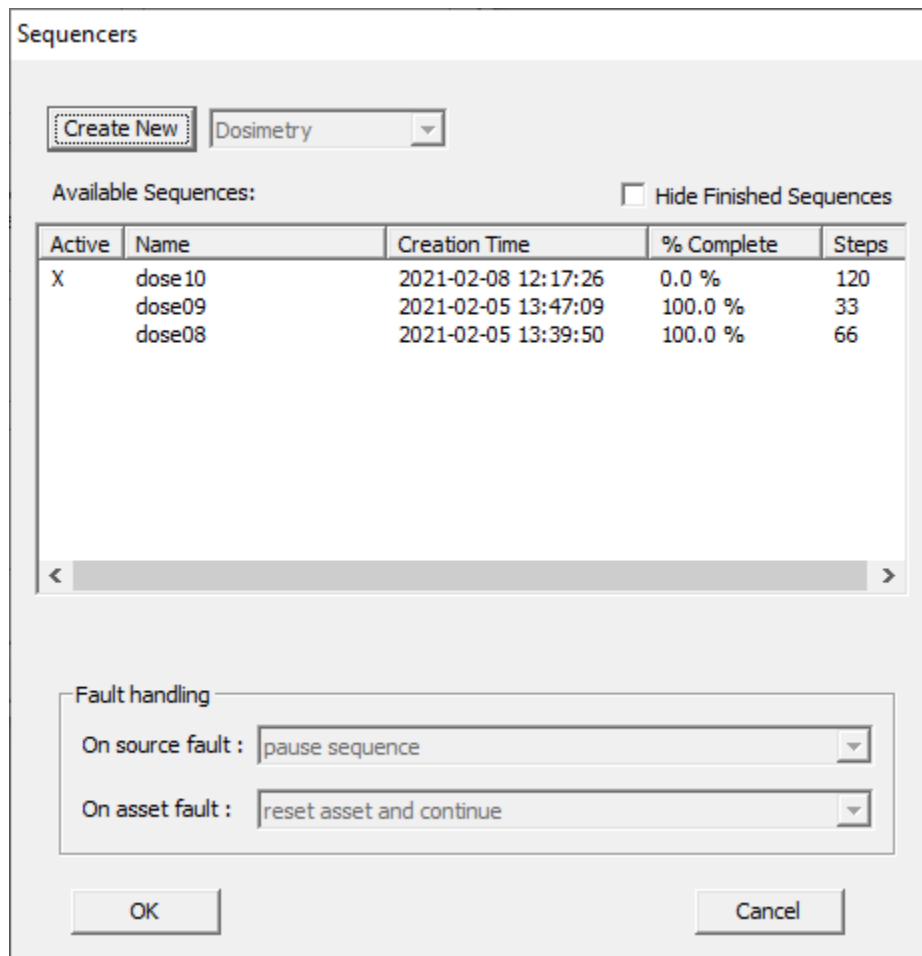

Figure 4-23 Sequencers dialog
- 4) Click “Define”. The “Sequencers” dialog will open up (Figure 4-23)